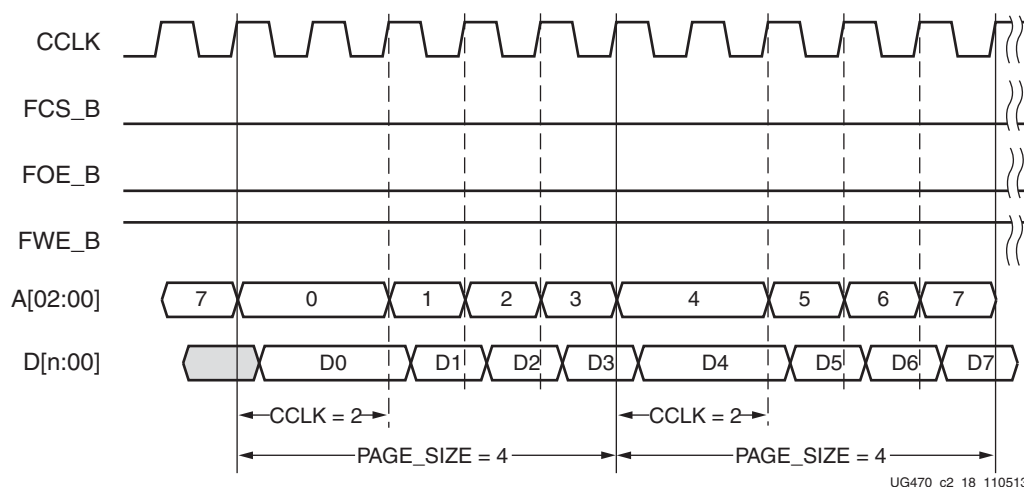

Figure 2-18: BPI Waveforms (Page Size = 4 and First Access CCLK = 2)
The sequence of page-mode operation is controlled by the 7 series FPGA bitstream. After an FPGA reset, the default page size is 1, the first access CCLK is 1, and the master CCLK is running at slowest default frequency. The COR0 register contains master CCLK frequency control bits (see Configuration Options Register 0 \(01001\), page 111). The COR1 register contains BPI flash page mode control bits (see Configuration Options Register 1 \(01110\), page 114). After the COR1 register is programmed, the BPI address timing switches at the page boundary as shown in Figure 2-18. When the SWITCH command is received, the master CCLK switches to a user-desired frequency, using it to load the rest of the configuration. See the BitGen section of UG628, *Command Line Tools User Guide* for details on BitGen options.
Notes related to Figure 2-18:
1. Figure 2-18 shows BPI mode, a page size of 4, and a first access CCLK of 2.